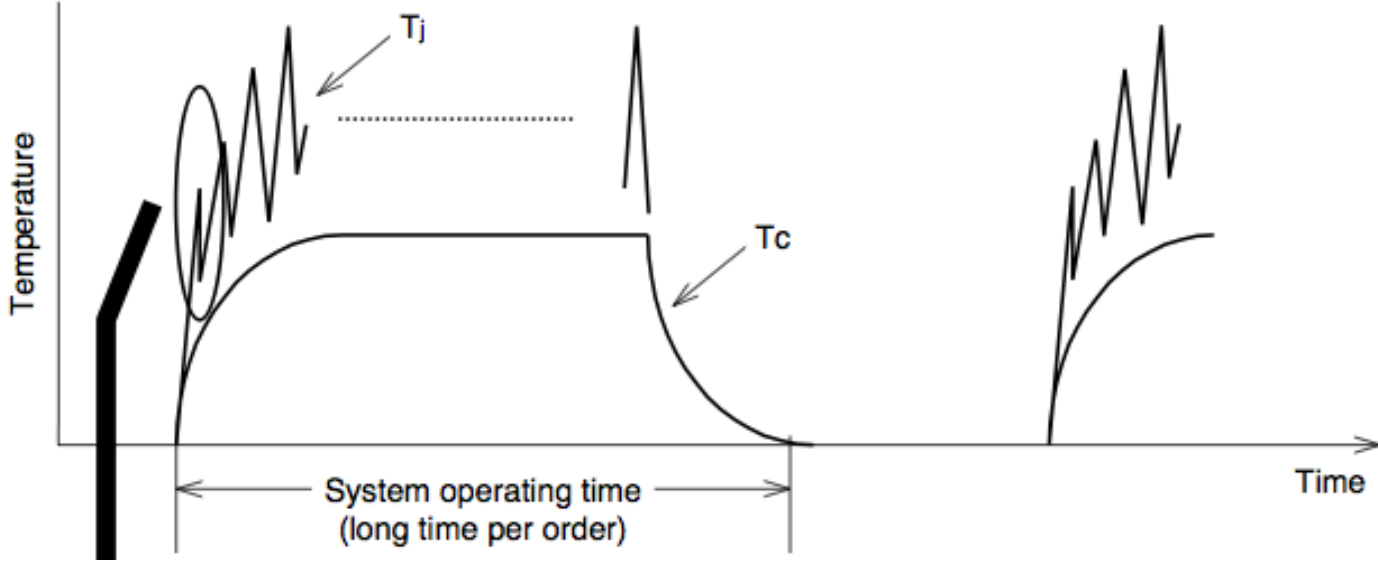

Fig.1: Simulation of the power cycles
- Operation model 1 (Fig.1) shows few changes of the case temperature (or base plate temperature) but frequent changes of the junction temperature. This is also known as power cycles life.